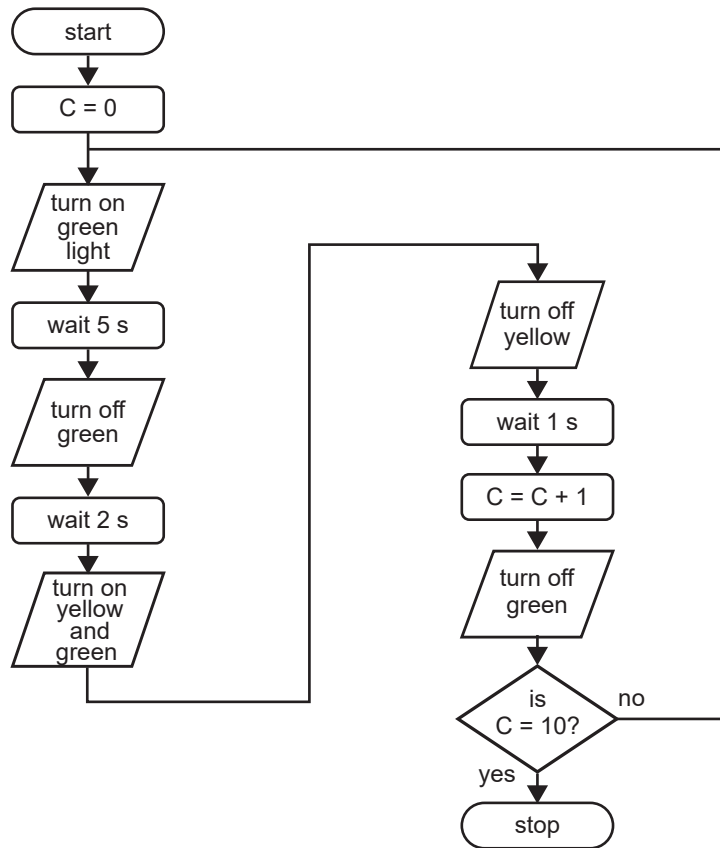

Figure 2
d. Figure 2 shows a flow chart for the light sequence designed by the project team.